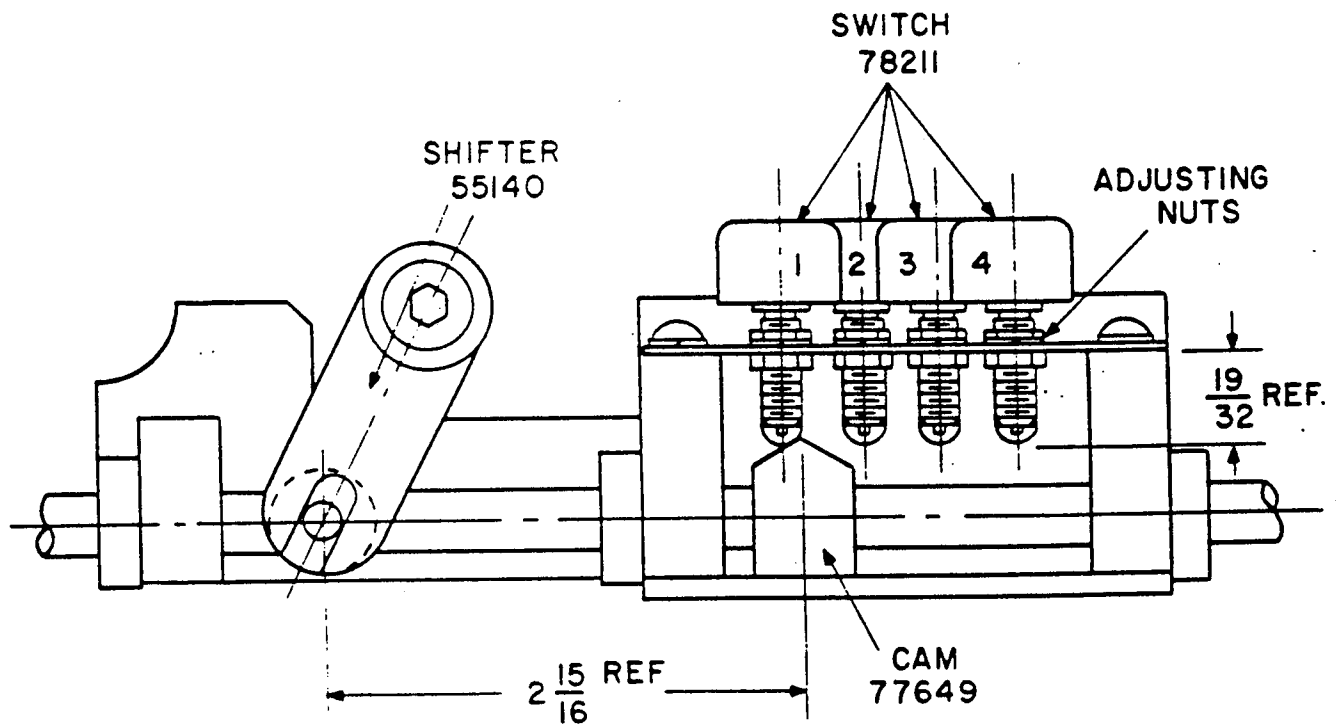

Figure 2-3. SELECTOR ASSEMBLY SWITCH ADJUSTMENT.
The following procedure describes how to make a bench check adjustment of selector assembly 99428. An ohmmeter or buzzer circuit can be used to check switch contact closure. (Refer to Figs. 2-3 and 8-24.)
a. With cam 77649 in the position indicated in Fig. 2-3, check that switch 1 is made just before nose of cam is under centerline of roller.